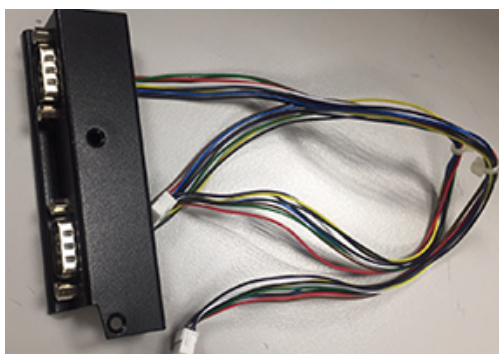

Figure 2.27
2. Retrieve the serial port module and assemble it as shown in Figure 2.27.